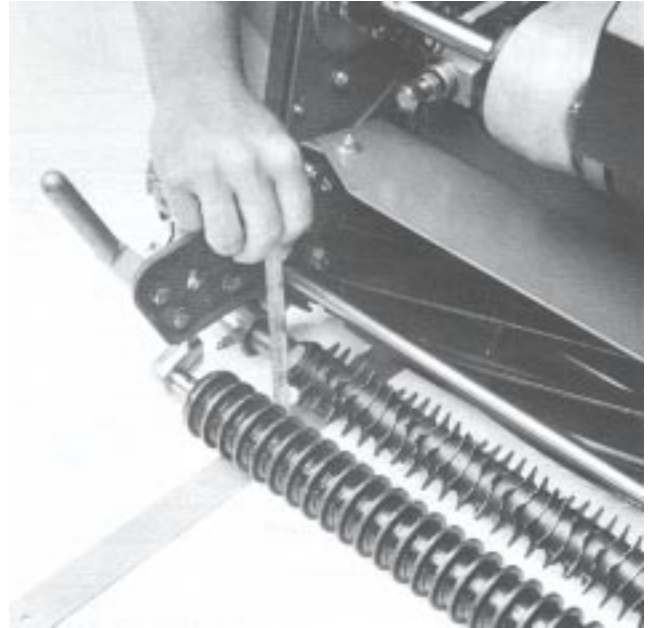

Figure 17
3. On one end of groomer shaft, measure the distance from the lowest tip of a groomer blade to work surface (Fig. 17).
Important When transporting machine be sure to disengage the groomer clutch and raise the grooming reel into its transport (raised) position. To raise the grooming reel, rotate the right and left quick up levers so they face to the rear (Fig. 17). To lower the grooming reel, turn the quick up levers forward and engage the clutch.